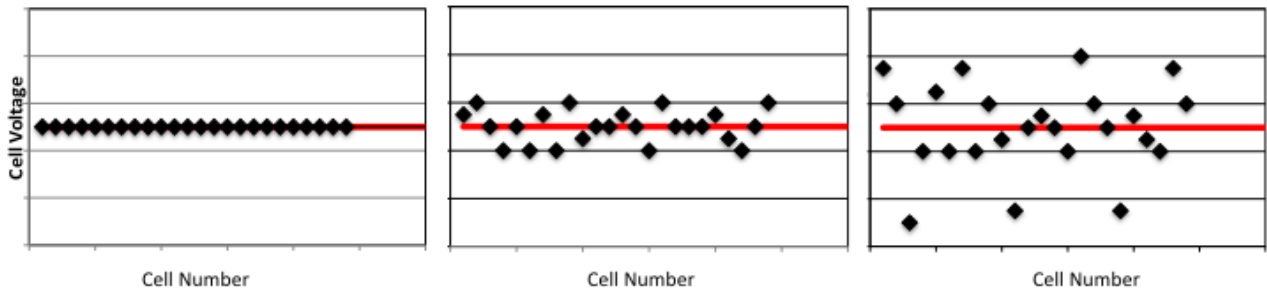

Figure 1. Ratings based on Cell Averages
- Cell average – When all the cells are tested, this will be the arithmetic average of all of the cells. Cells will range above and below this value. No indication of an acceptable range is given. All cells in these three figures (Figure 1) could be listed with the same 10 amp rating, and none would be considered failures by the manufacturer.